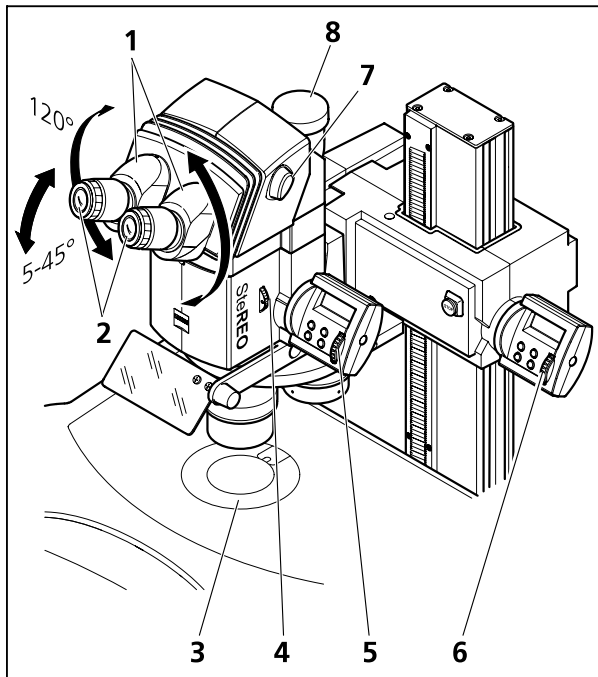

Fig. 38 Adjusting the stereomicroscope (motorized zoom and focusing)
1. Place the specimen in the center of the round stage insert (Fig. 38/3).
2. Set the diopter-setting ring on focusing eyepieces (Fig. 38/2) to the required value, if known, otherwise set it to "0".
3. Select the desired viewing height by swiveling the eyepiece sockets (Fig. 38/1) by maximally 120°; adjust them to your interpupillary distance. You should see an unclipped circle of light when you look into the eyepieces.
5. Turn knurled wheel (Fig. 38/4) to open the aperture diaphragm.
6. At first, set the zoom (Fig. 38/5) to minimum magnification to find the object to be examined.
7. Focus on a small, prominent feature in the center of the image (Fig. 38/6).
8. Adjust the maximum zoom value (Fig. 38/5). Because of the high magnification, it is likely that the feature appears blurred again and off center.
9. Search for the feature by moving the specimen and exactly re-focus on it (Fig. 38/6).
10. Then, set the minimum zoom again (Fig. 38/5) and correct for any existing image blurring by separately turning the diopter-setting rings of the focusing eyepieces (Fig. 38/2) to compensate for defective vision.
If desired, connect a camera of your choice to the camera port of the ergo phototube (Fig. 38/8). To switch the light path over, turn the lever (Fig. 38/7) over. The right light path is reflected at 100 %.
3. Put the object into the center of the round stage insert (Fig. 38/3).